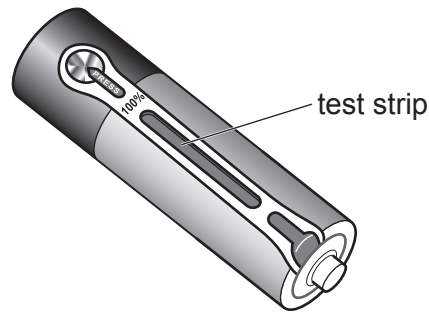

Fig. 10.1
- 10 Fig. 10.1 shows a battery with a test strip that allows the user to check the condition of the battery. When a finger is pressed against each end of the test strip, a current from the battery flows through the strip, creating heat. The heat causes the test strip to change colour, indicating the condition of the battery.